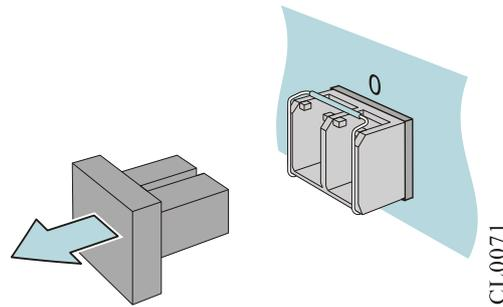

FIGURE 5-7 REMOVE DUST CAP OF SFP MODULE
Step 5: Remove the dust cap. The diagram of removing the dust cap of the SFP module is as shown in Figure 5-7